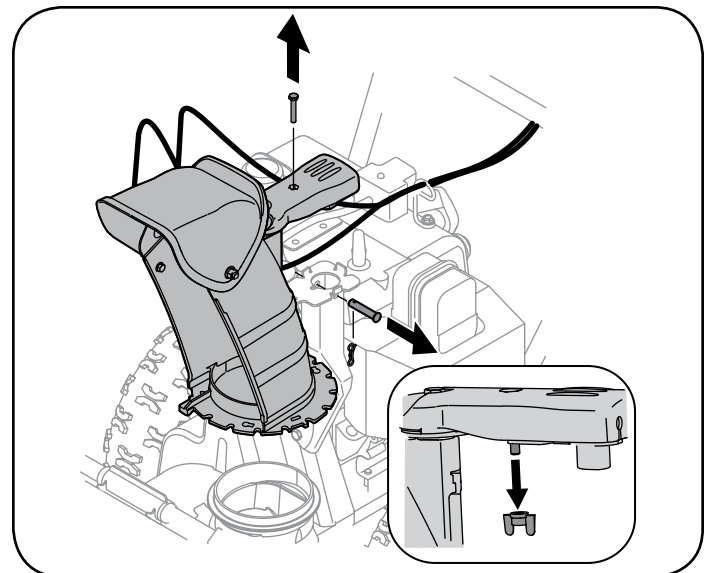

Figure 3
3. Remove wing nut and hex screw from chute control assembly and clevis pin and cotter pin from chute support bracket. See Figure 3.